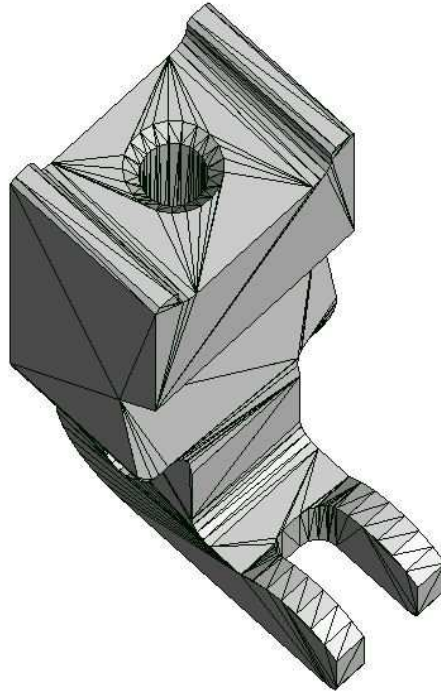

Figure 68: Typical STL object produced by a CAD program. Note that the hole and countersink require a large number of facets.
- Remove details from the solid before exporting the STL file if they will not play a significant role in the field solution. As shown in Fig. 68, small holes, fillets and other features may account for the majority of facets in the model.